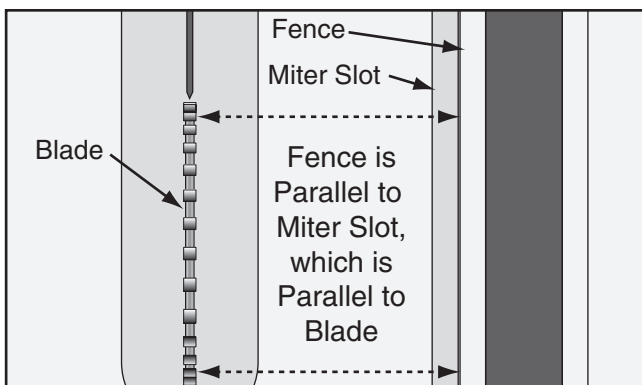

Figure 121. Checking fence parallelism with blade.
2. Slide the fence up against the right hand edge of the miter slot, lock it in place, then raise the blade to its maximum height. Examine how the fence lines up with the miter slot and the blade, as shown in **Figure 121**.
- If the fence/miter slot are parallel with the blade, as shown in **Figure 121**, no further adjustments need to be made.